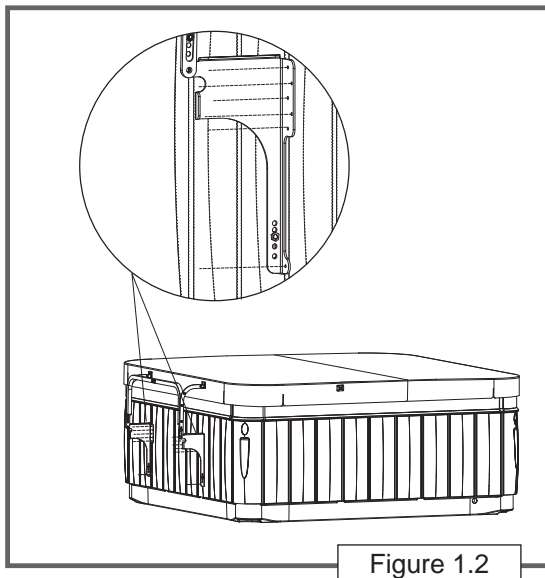

Figure 1.2
- The Warning Label must be facing the front of the spa (front to back) or the right side if folding to the left of the spa (side to side) (Figure 1.2) or to the left side if folding the cover to the right.
- Align the back or side of the cover (opposite side of Warning Label) with the back or side of the spa skirt (Figure 1.2).
- IMPORTANT:** Carefully examine cover to be sure it is still aligned evenly with the outside edges of the spa bartop (Figure 1.2).
Using the Mounting Bracket (bottom part of the Pivot Assembly) as a template. Pre-drill $7/64$ " holes into spa (Figure 1.2) with 1" max. depth. There are (6) holes per Mounting Bracket.